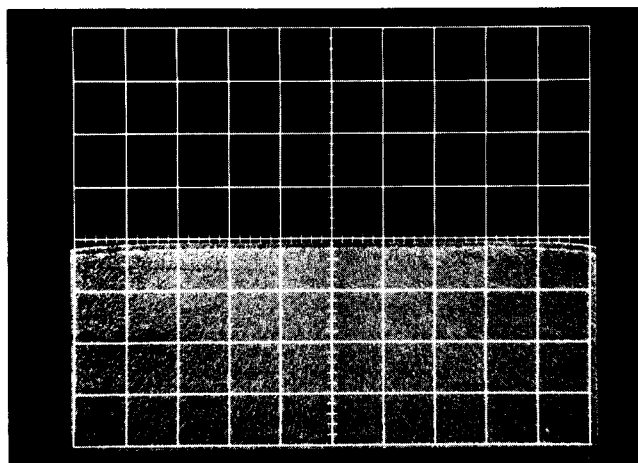

Fig. 5-7. Non-Storage level adjustment, with Upper DISPLAY switch at NON STORE and Lower DISPLAY switch at STORE.
d. Adjust R906 (NON STORAGE LEVEL) for the best division between the two screens, with no background glow on the non-stored screen. (See Fig. 5-7.)